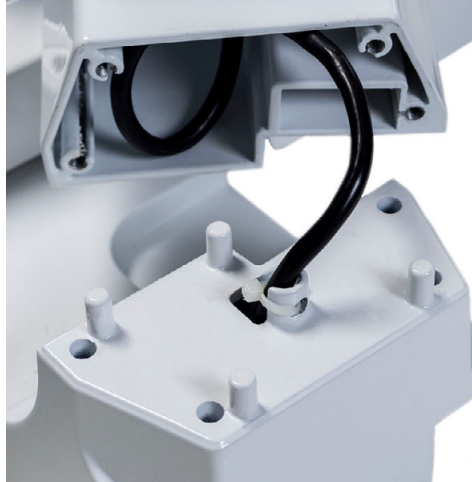

Figure 2-2. Attach Scale Head to Scale Base
3. Attach the scale head to the base as shown in Figure 2-2 making sure not to pinch the cable.